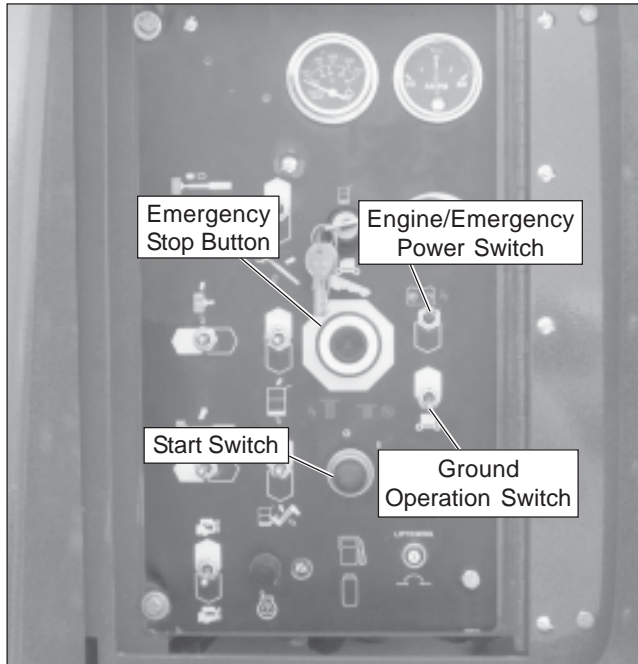

Figure 8.2 – Lower Controls
3. Pull the emergency stop button (refer to Figure 8.2) outward. Insert the key in the controls selector and turn the switch to the lower control position.